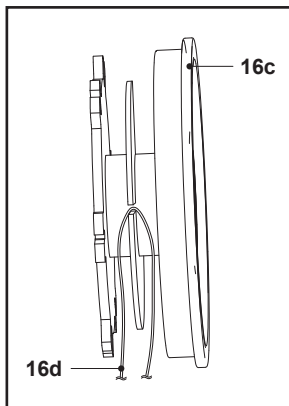

Fig. 29
5. Double the trimming line (16d) back and lead the loop through the slot of the trimming spool (16c) and hook it (Fig. 29).